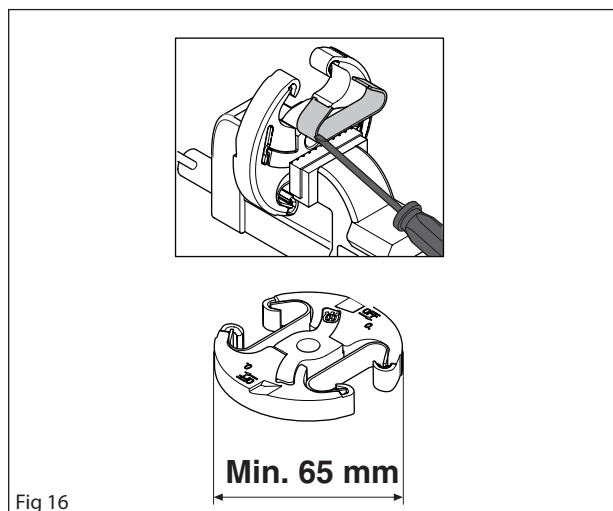

Fig 16
Secure the clutch in a vice as shown in figure 16. Carefully remove the clutch springs. Remove the clutch shoe springs from the side that does not have text.
- Check the thickness of the clutch shoes by measuring them with slide callipers across the whole clutch hub. If the thickness is below 65 mm, the clutch must be replaced. See figure 16.